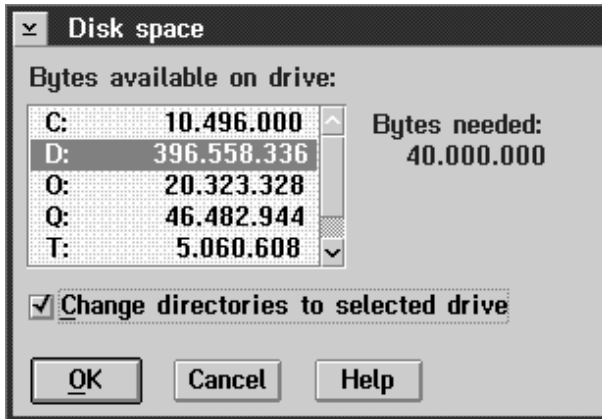

Figure 11. Disk space window
- 5 Optionally, click on **Disk space...** to view disk space available on all your drives, as shown in Figure 11 on page 56.